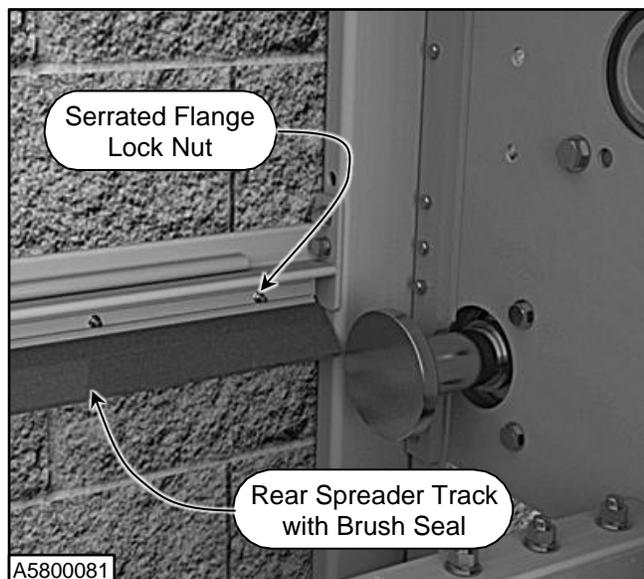

Figure 35
3. Remove serrated flange lock nuts and rear spreader track. (See Figure 35)